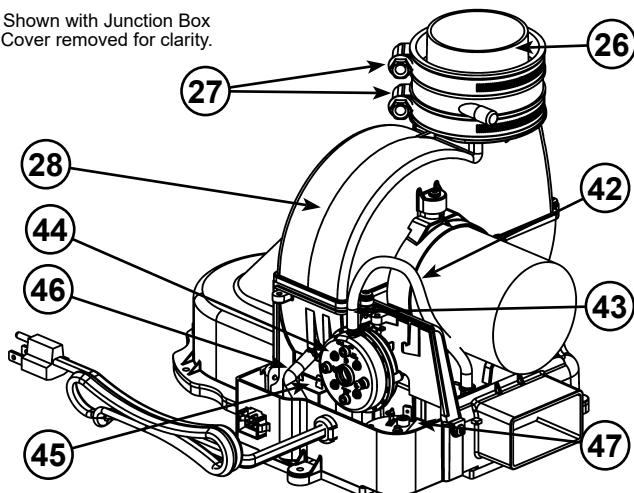

Figure 62.
- 26 ****Rubber Coupling (see Figure 5) (see also Figure 62)
- 27 Gear Clamp (see Figure 5) (see also Figure 62)
- 28 ***Blower with Power Cord (see Figure 5) (see also Figure 62)
- 42 Air Tubing (Intake) (see Figure 5) (see also Figure 62)
- 43 Blower High Limit Switch (see Figure 5) (see also Figure 62)
- 44 Intake Air Pressure Switch (NC) (inside box) (see Figure 5) (see also Figure 62)
- 45 Capacitor (see Figure 5) (see also Figure 62)
- 46 Air Tubing (Exhaust) (see Figure 5) (see also Figure 62)
- 47 Exhaust Air Pressure Switch (NO) (inside box) (see Figure 5) (see also Figure 62)